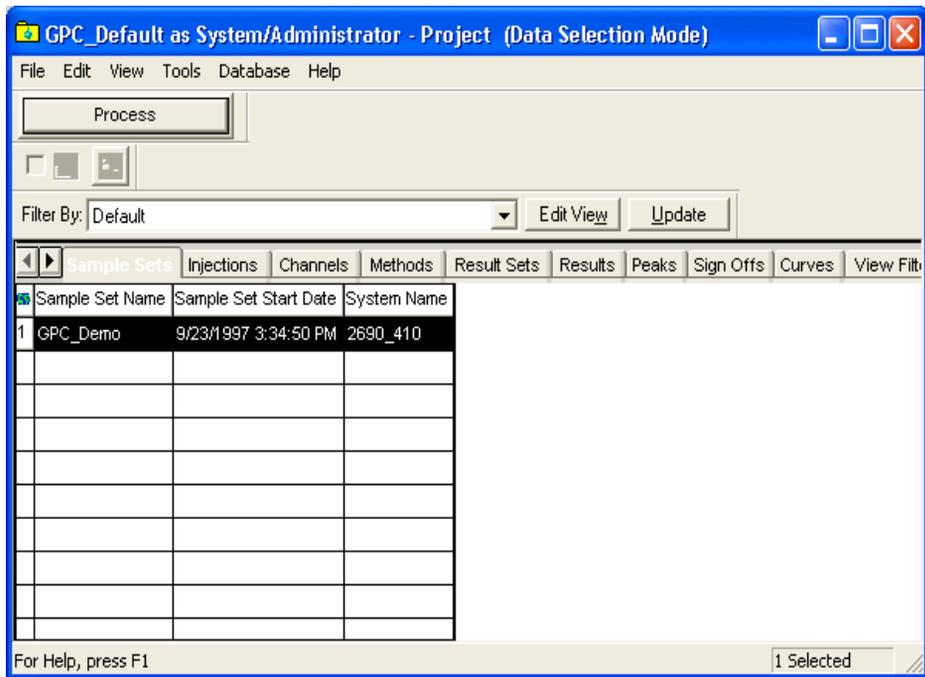

Figure 4-1 Sample Set View in the Project Window
2. Select **Sample Sets**, then click **OK**. The Project window appears (Figure 4-1).